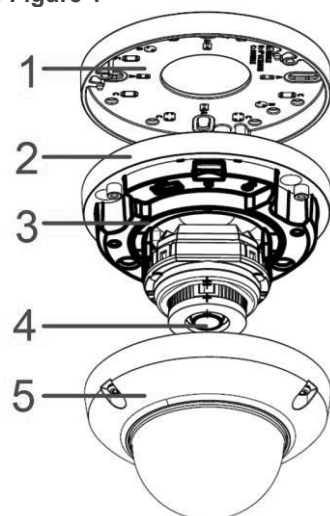

Figure 1
4. Unscrew the three screws on the camera dome (5) (Figure 1) to remove the dome cover from the camera base.
- a. through the cable side entry slot on the camera base (2) (Figure 1).
- a. through the cable hole on the mounting plate (1) (Figure 1).
### Camera Parts: Figure 1
6. Place the camera base (2) (Figure 1) on to the camera mounting plate (1) (Figure 1) and ensure that the three holes on the camera base align with the three holes on the mounting plate.
9. Cover the camera body with the dome cover (5) (Figure 1) and securely attach the dome to the camera with the three screws.